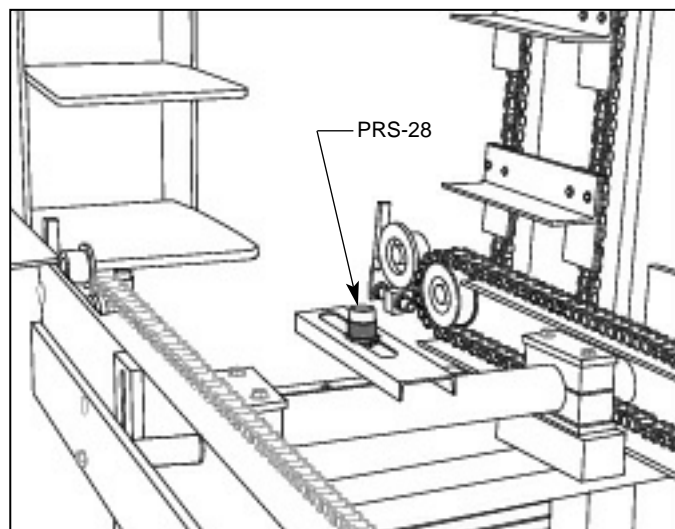

Figure 2.2 PROXIMITY SWITCH PRS-28.
2.1.2.1 Switch (PRS-28) should be adjusted 1/4" [6.3mm] below the bottom of pallet. (figure 2.2)